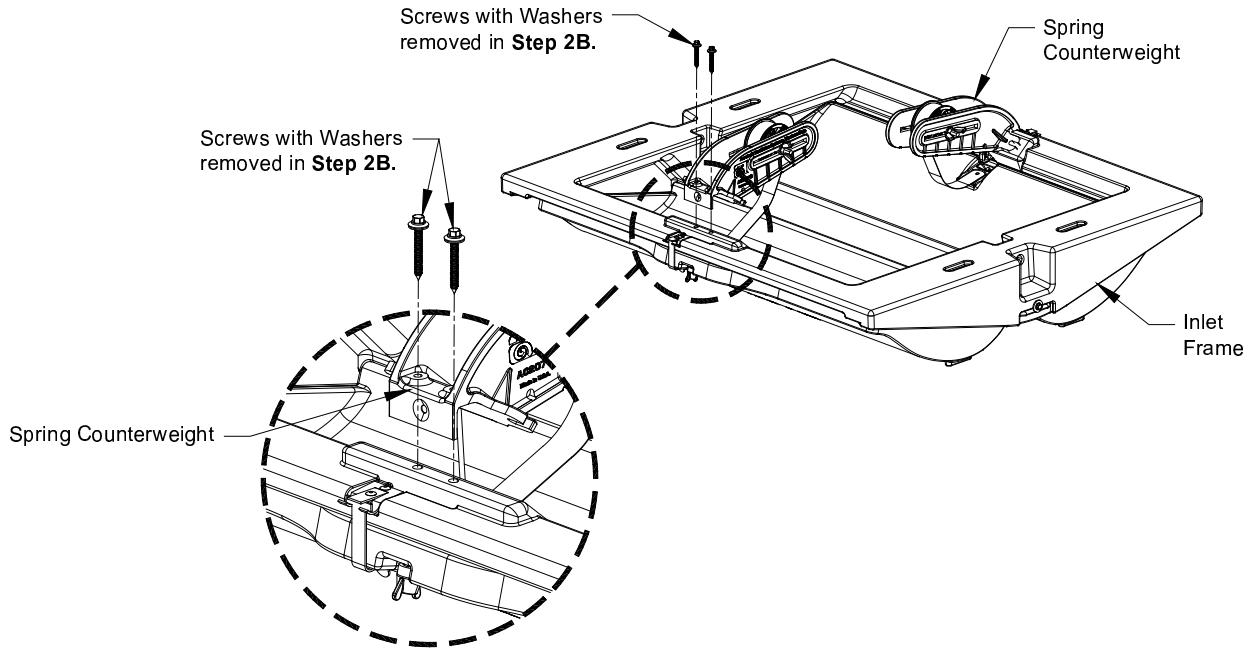

Figure 3
Turn Spring Counterweight Assembly over and set on frame of inlet and secure assembly with (2) of the screws and washers removed in **Step 2B**. See **Figure 3**. Repeat for other Spring Assembly.